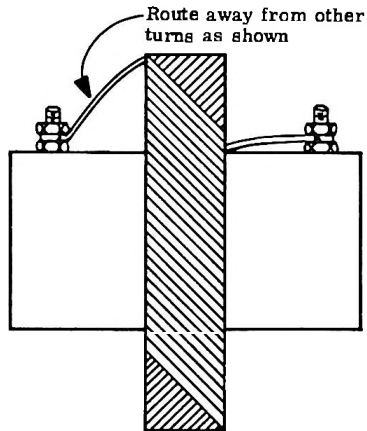

Figure 2. L13 Top Lead Routing
7. Route the top lead (outside of winding) away from the pi winding of rf choke L13. Refer to figure 2. The location of L13 is shown in figure 6-1, sheet 16 of 19, in the instruction book on the 820E/F-1 Broadcast Transmitter.